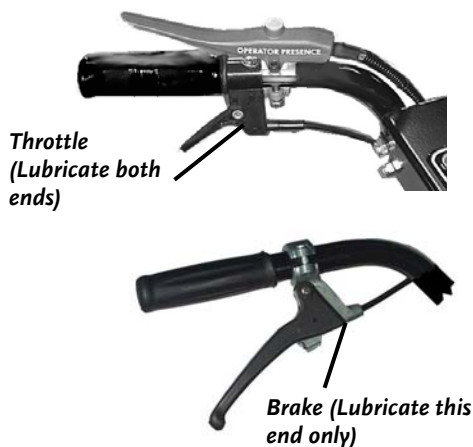

Figure 12
2. Using SAE 30 Oil, lubricate the Parking Brake Lever and Cable at the Operator's end, and the Throttle Lever and Cable (**Figures 12 and 13**) at both ends. Operate the Levers to work lubricant into the Cables.